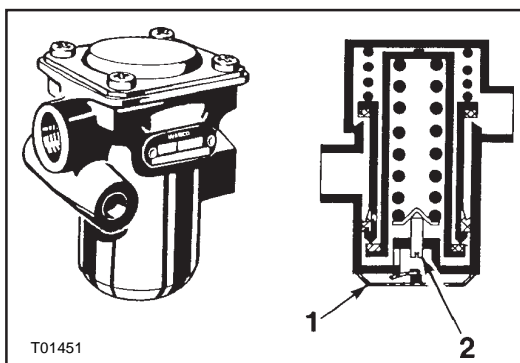

Figure 30: Air pressure regulator
1. Remove bottom cover (1, Figure 30)
2. Turn screw (2, Figure 30) :